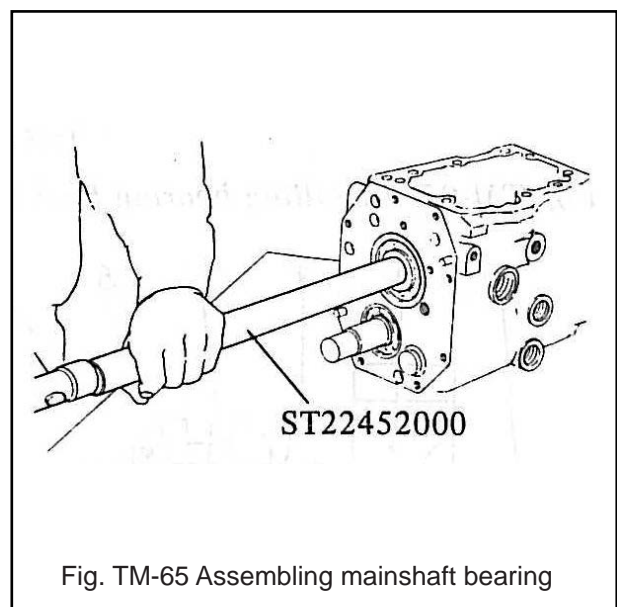

Fig. TM-65 Assembling mainshaft bearing
8. Press mainshaft bearing in place from the rear side of transmission case, using mainshaft Bearing Drift ST22452000. See Figure TM-65.